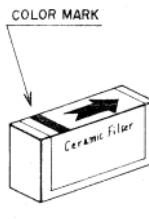

Fig. 3
- 2) Connect Genescope Output to point (1) (FM IF Input), and Genescope Input to point (8) (AF Output).
- 5) In making this adjustment, in some cases the rank of the ceramic filter causes a discrepancy in the S Curve Marker Point, but it is satisfactory if through adjustment a margin of within  $\pm 500$  Hz can be obtained (See Fig. 3).